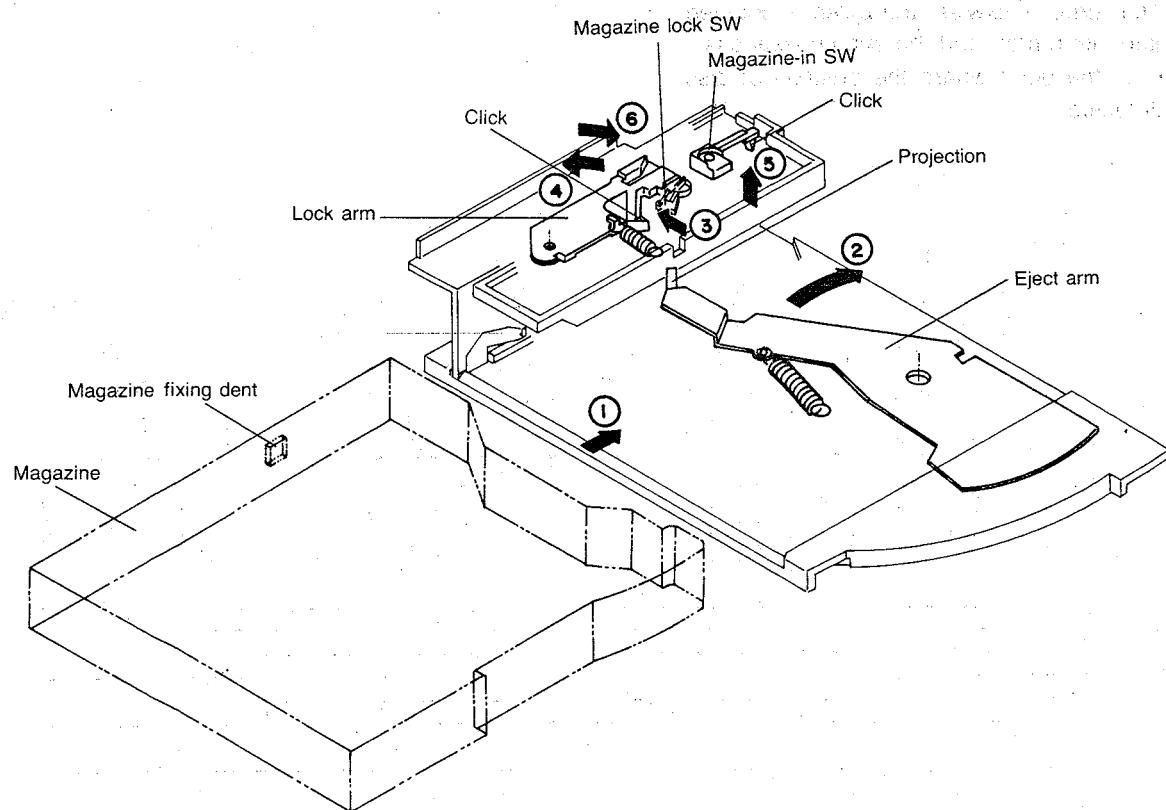

Fig. 3 Magazine locking
Fig. 3. shows the process from insertion of a magazine in arrow ① direction to the condition where the magazine is fixed to the main chassis ass'y. During the process from power ON to magazine fixing, the cassette performs the following operations in sequence:
- The magazine pushes the projection of the eject arm, which turns in arrow ② direction.